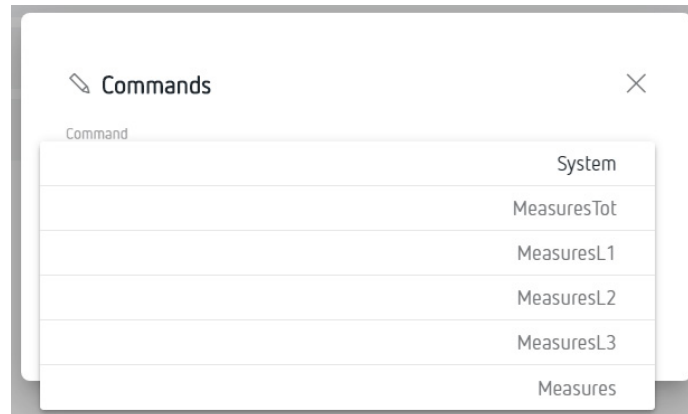

Figure 29: Device screen: Commands.
- ✓ Test communication with a device, . Pressing the button makes the screen in Figure 29, appear, where you can select and send a request for a device memory location to test the communication.